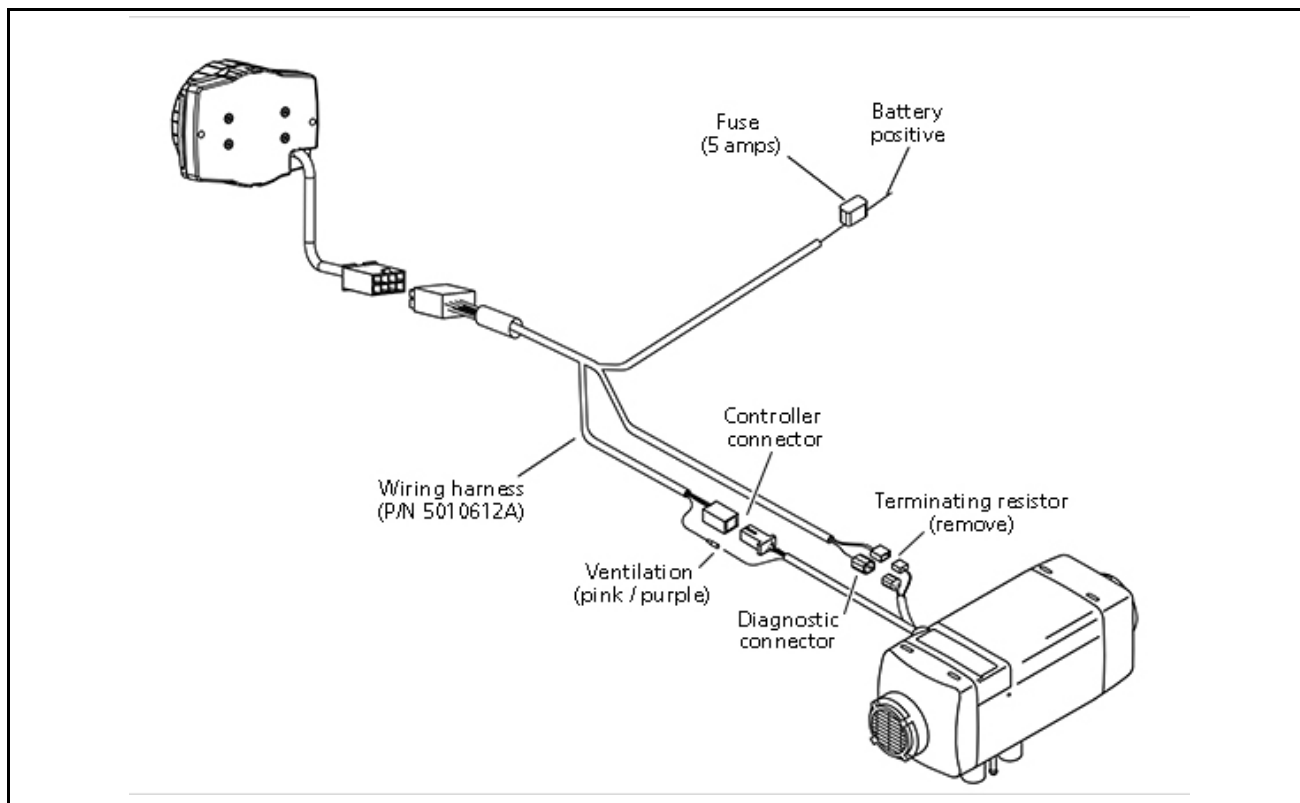

Figure 34. Air Top 2000 STC with SmarTemp Control 2.0 - connection diagram
- Follow the electrical pin-out fig. 34 to install the supplied harness connector and harness adapters.